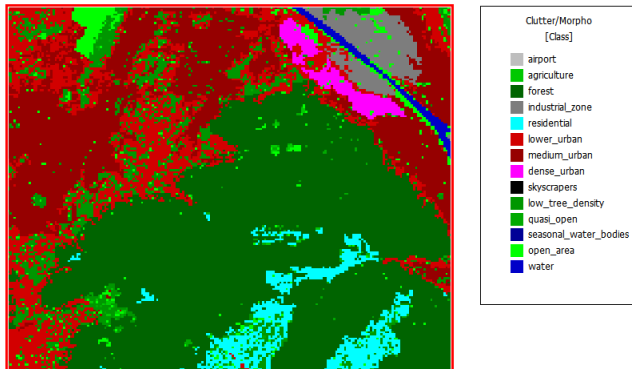

Figure 136: Top view of the clutter database.
3. Observe the land usage in Figure 136.